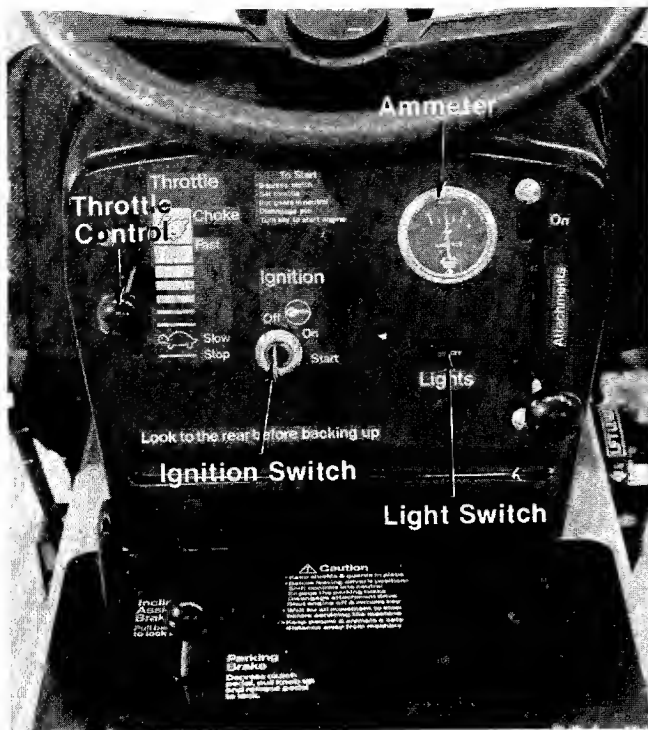

FIGURE 10.
The ignition switch is located in the center of the dashboard. Turn the key to the "START" position to start the engine. When the engine is running leave the key in the "ON" position. To stop the engine turn the key to the "OFF" position. (See figure 10.)
The throttle control is located on the left side of the dashboard and is used to regulate the engine speed. (See figure 10.) The engine should be operated from $\frac{3}{4}$ to full throttle (FAST) when operating any equipment that uses the tractor engine as a source of power such as the mowing deck, snow thrower or rotary tiller. (See figure 10.)
The head lamps are operated by pushing the light switch located on the dashboard. The head lamps will only operate when the engine is running. (See figure 10.)
The maximum charging rate is 3 amps. The head lamps operate directly from the engine alternator and do not register on the ammeter. (See figure 10.)
4. Set the throttle control in the "FAST" position. (See figure 10.)
5. Turn the ignition key to the right to the "START" position. After the engine starts release the key. It will return to the "ON" position. (See figure 10.)